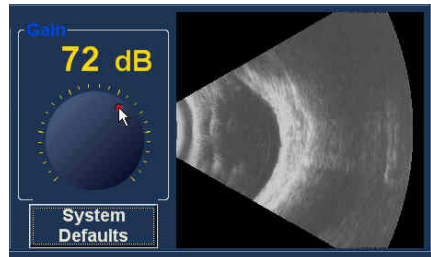

Figure 4.42 – Selecting Gain Adjustment
1. Select the red drag point the gain adjustment knob as shown in Figure 4.42.